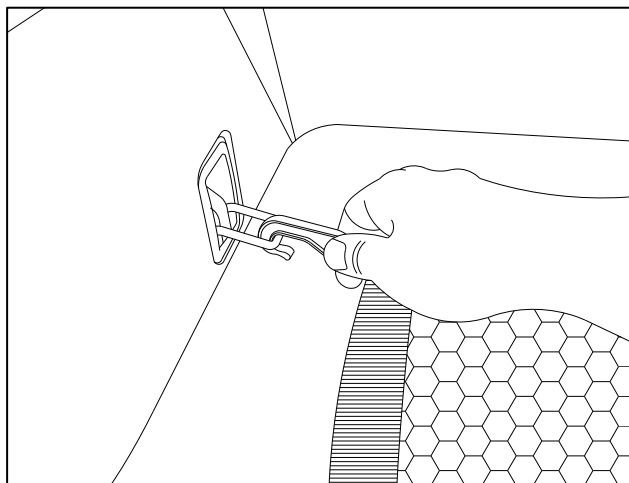

Fig. 1-2
- (b) Orient spider net on the cargo floor so cloth pull tab is located at the rear of the vehicle. Attach the net's front driver side hook to the forward D-ring as shown. (Fig. 1-2)